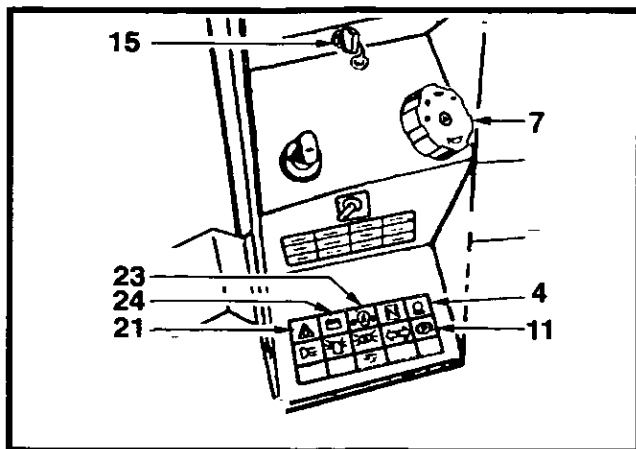
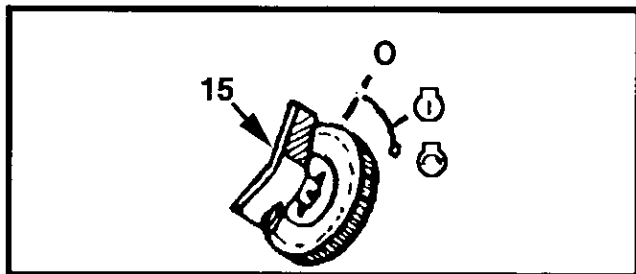
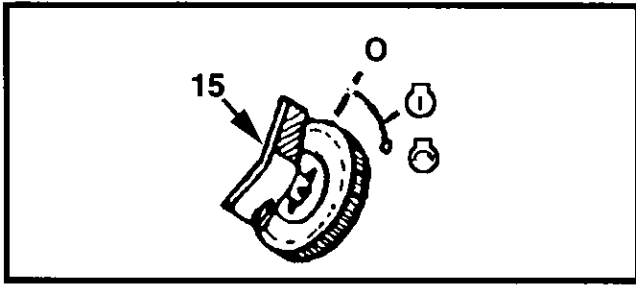
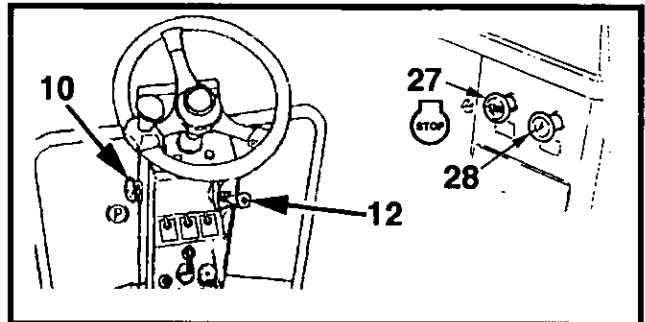

Figure 4-7 Indicator Lights
Figure 4-8 Ignition Switch
Figure 4-10 Ignition Switch
Figure 4-13 Emergency Stop/Parking Brake
The red brake on indicator, (4, Figure 4-7), will illuminate when the brake is applied.
7. Turn ignition switch key (15, Figure 4-8) to **I** position, and verify that the following **RED** indicator lights (Figure 4-7) are all illuminated.
10. With parking brake applied, turn ignition switch key to position (Figure 4-10).
11. Return ignition switch key to position **O** (Figure 4-10).
2. Position the engine speed control lever 12 to Low IDLE position 'A', (Figure 4-13).
3. Ensure the Parking Brake is **ON**. The **RED** Brake Light (11, Figure 4-7), will illuminate to advise the Parking Brake is applied. If not applied press in the Parking Brake Switch (10, Figure 4-13).
- Alternative Emergency Stop can be effected by pulling the Engine Stop Knob (27, Figure 4-13)
5. When normally starting a cold engine, use the excess fuel control by pulling out the control knob (28, Figure 4-13), located on the right face of the engine canopy, Start engine by turning ignition switch key to **O** position (Figure 4-10). Once engine starts, release switch immediately, and it will return to **I** position (Figure 4-10).
8. Release parking brake control* (10, Figure 4-13). Observe area around machine for personnel/obstructions..
10. Apply parking brake control when the parking brake light (4, Figure 4-7), should illuminate. Release the parking brake when the parking brake light should extinguish.
11. Check for correct operation of the emergency stop while propulsion control is in the STOP position, and pull the red emergency stop knob  (27, Figure 4-13).